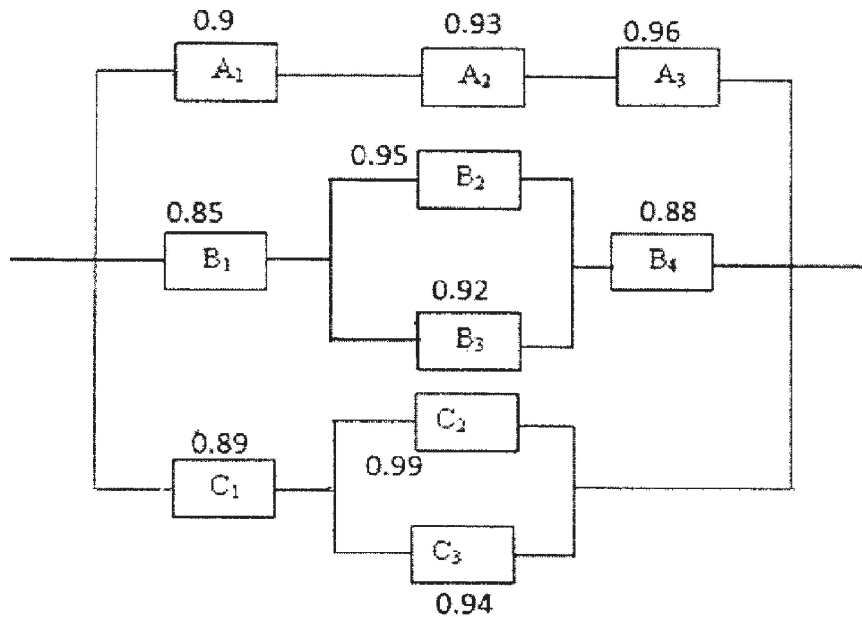

Figure 4
b) Draw the fault tree diagram for the system configuration shown in the Fig.4. Write minimum tie sets and find the reliability of the system from the reliability of individual elements shown in figure, assuming them to be independent. [10]